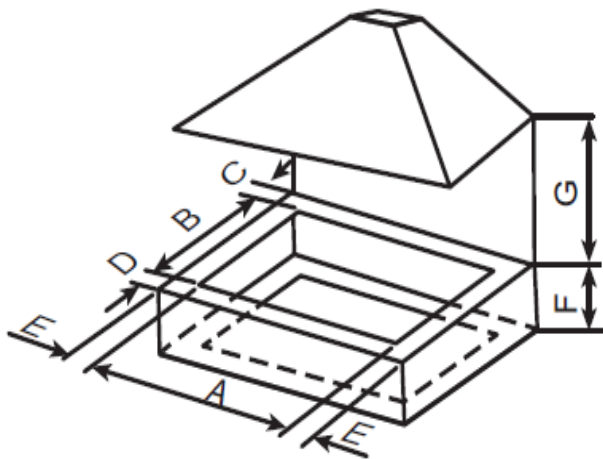

Fig. 4
- Your hob can be fitted to any workshop with a thickness of 1.575 in (40) to 1.97 in (50 mm), accordance with no overhanging surface or cooker hood should be closer to the hotplate than 29.53 in (750 mm). Fix in position in Fig. 4. If fitting a 23.62 in (600 mm) bridging unit above the 27.56 in (700 mm) hob unit, the sides of adjacent cabinets may be lower than 29.92 in (760 mm) down to 13.15 in (334 mm) provided they are resistant to heat and steam. The hob has a special seal which prevents liquid from entering the cabinet. Follow these instructions in order to incorrectly apply this seal: